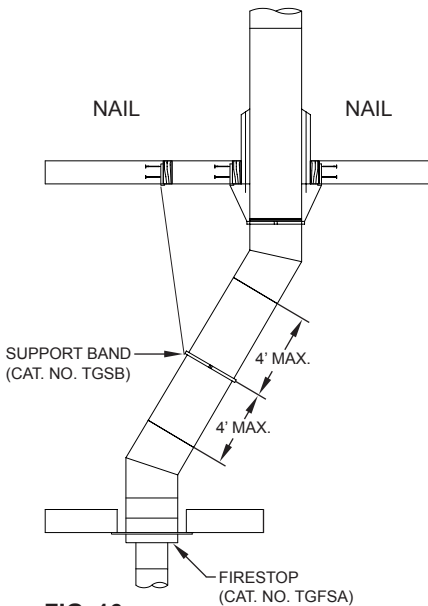

FIG. 16
2. Attach the elbow to the chimney pipe or other support part and twist to lock. Using the offset chart, add chimney sections between elbows. A support band (TGSB) is required at the upper elbow of the pair to support the load, as shown in FIG. 16. Attach the upper elbow to bring chimney back to vertical.